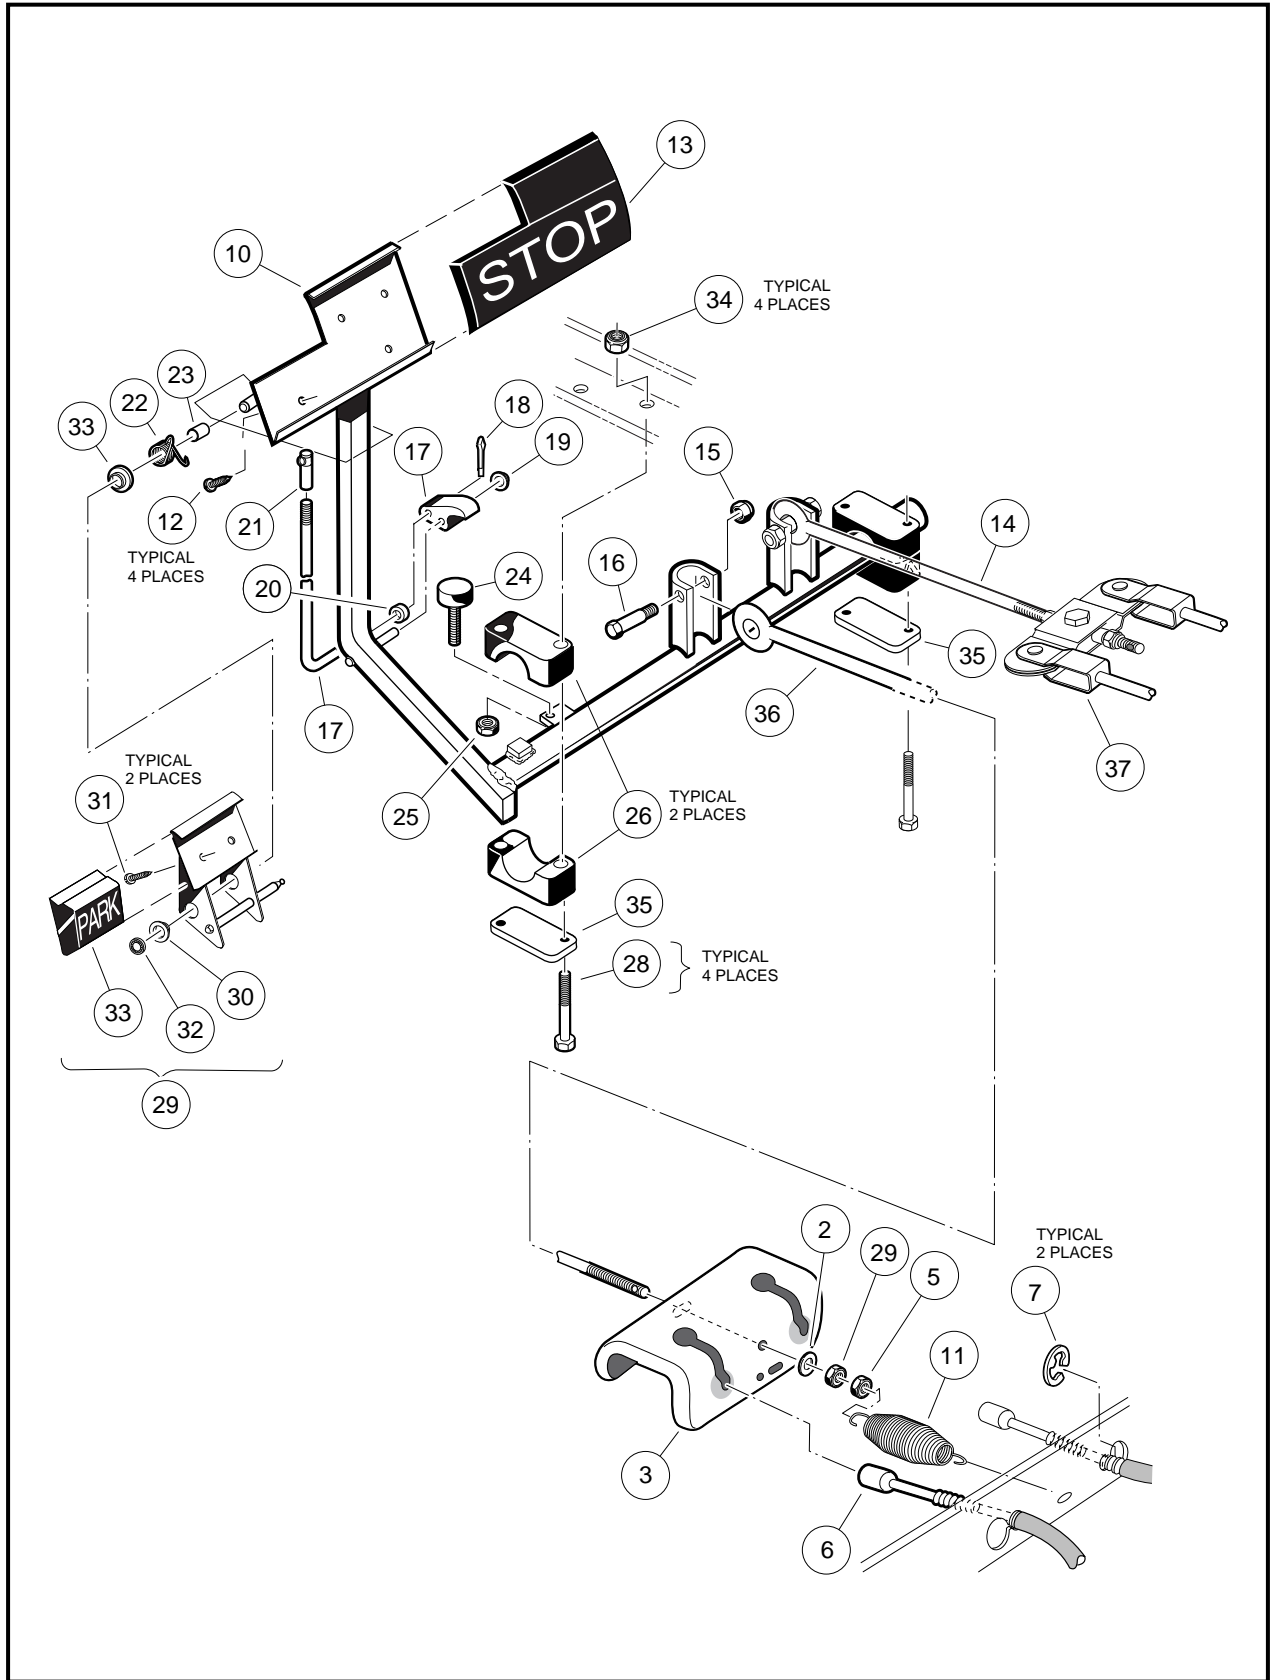
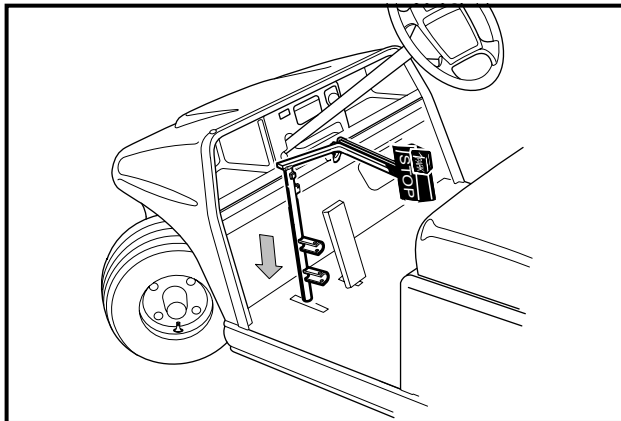

Figure 5-2 Brake and Park Brake Pedal Assembly and Mounting – Pioneer 900
Figure 5-3 Brake Pedal Weldment Through Floor
- 3.1. Remove shoulder bolts (16) and nuts (15) then disconnect the rods (14 and 36) from the pedal shaft (**Figure 5-2, Page 5-3**).
- 3.2. Remove nuts (34), retainer plates (35), bolts (28), and mounting blocks (26) (**Figure 5-2, Page 5-3**). If the mounting blocks (26) show signs of excessive wear, or are damaged, they must be replaced with new ones before installing pedal assembly (**Figure 5-3, Page 5-4**).
- 3.3. Remove the nut (25) and brake stop (24) (**Figure 5-2, Page 5-3**).
- 3.4. Lift the pedal assembly (10) through the floorboard (**Figure 5-2, Page 5-3**).
1. From the top side of the floorboard, insert the brake pedal weldment assembly (10) (**Figure 5-2, Page 5-3**) through the opening in the floor as shown (**Figure 5-3, Page 5-4**) and install the pedal stop (24) (**Figure 5-2, Page 5-3**) on the weldment.
2. Attach the equalizer rods (14 and 36) to the brake pedal weldment assembly (10) as shown (**Figure 5-2, Page 5-3**). Tighten to 17 in-lb (23 N·m).
3. Position and attach brake pedal assembly, mounting blocks (26), and retainer plates (35) to vehicle frame as shown. Tighten the bolts and nuts to 50 in-lb (6.5 N·m) (**Figure 5-2, Page 5-3**).
5. Tighten nut (25) on brake stop (24) to 8 ft-lb (9.5 N-m) (**Figure 5-2, Page 5-3**).
- 3.1. To remove the park brake rod and pawl assembly (17 through 20), remove the push-on nut (19) and disconnect the ball joint sleeve (21) from the park brake pedal (29) (**Figure 5-2, Page 5-3**). **See following NOTE.**